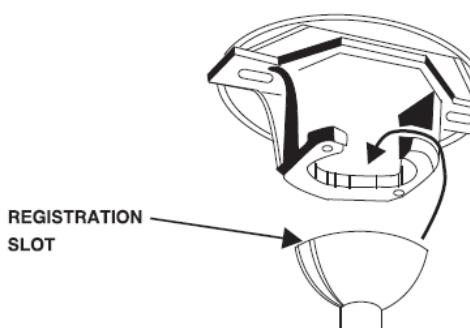

Fig. 6
- Lift the fan assembly onto the mounting bracket. Ensure the registration slot of the hanger ball is positioned on the stopper of the mounting bracket to prevent the fan from rotating when in operation. (Fig.6)